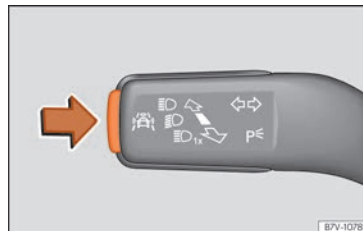

Fig. 83 On the turn signal and main beam headlight lever: button for driver assistance systems.
- Briefly press the »» **Fig. 83** button to open the **Assistants** menu.